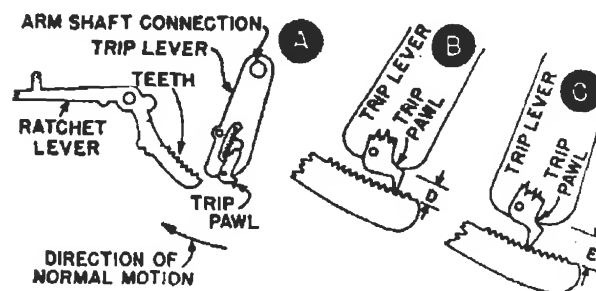
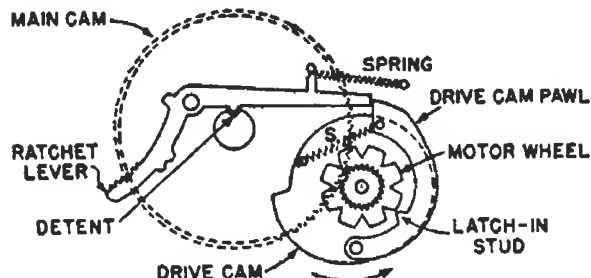

FIG. 3. One trip mechanism.
FIG. 9. The ratchet lever holds the drive-cam panel away from the motor wheel until the trip mechanism is actuated.
**Eccentric Trips.** Now that you have a general idea of how the pickup arm can move a trip lever, let's see how the trip lever can be used to start the change action when the pickup needle gets to the eccentric groove. Fig. 3 shows one of the systems that operates when the pickup arm reverses its normal motion. As shown here, the arm shaft connects to a trip lever. At the end of this lever is a trip pawl. The pawl swivels on a bearing, and a spring holds a stop on the end opposite the finger against a cut-out in the trip lever.
Another system is shown in Fig. 9. The tripping mechanism is that shown in Fig. 3, but this time the drawing is
When the trip pawl engages the ratchet lever, the left-hand end of the lever in Fig. 9 is forced downward, which raises the right-hand end. This frees the drive cam pawl and also takes a stud on the ratchet lever out of a